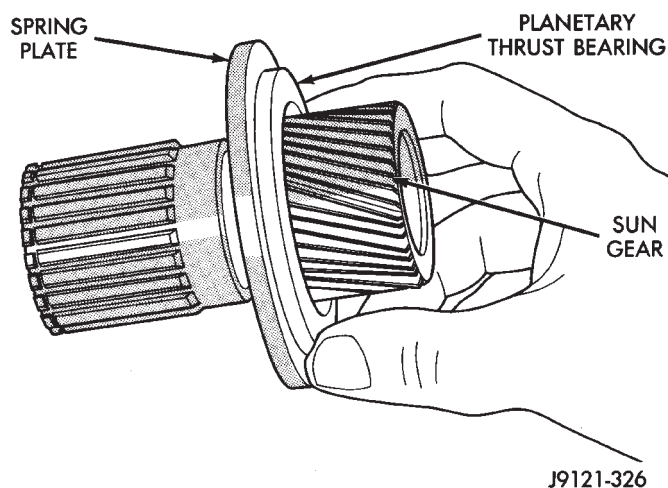

Fig. 45 Installing Planetary Thrust Bearing
(16) Install planetary thrust bearing on sun gear (Fig. 45). Slide bearing onto gear and seat it against spring plate as shown. **Bearing fits one way only. If it does not seat squarely against spring plate, remove and reposition bearing.**